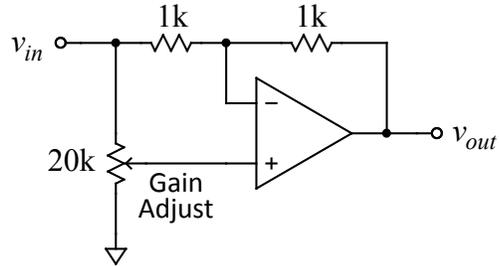

Figure 1-24: How does the gain of this circuit vary as the potentiometer is adjusted?
5. Consider the circuit below (Figure 1-24), which you will construct and evaluate during lab. What is the the circuit's gain (v_{out}/v_{in}) when the *gain adjust* potentiometer's wiper is set to the top end of its resistance element? Set to the bottom end? Centered?
Construct the circuit presented in Figure 1-24 on page 1-29 (Prelab exercise 5). Use the 20k potentiometer included with your parts kit. The potentiometer should be installed in small the breadboard area in the upper right section of the circuit trainer — your TA or the laboratory instructor can show you how to properly connect it. How does the circuit gain vary as you adjust the wiper position? Does it behave as you predicted in your answers to the prelab problem?